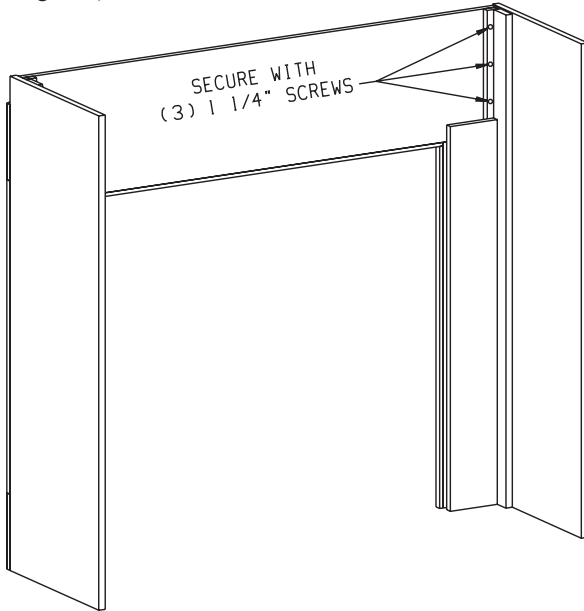

Figure 1
3. Use six (6) 1-1/4" screws to attach mantel sides to breastboard (See Figure 1).